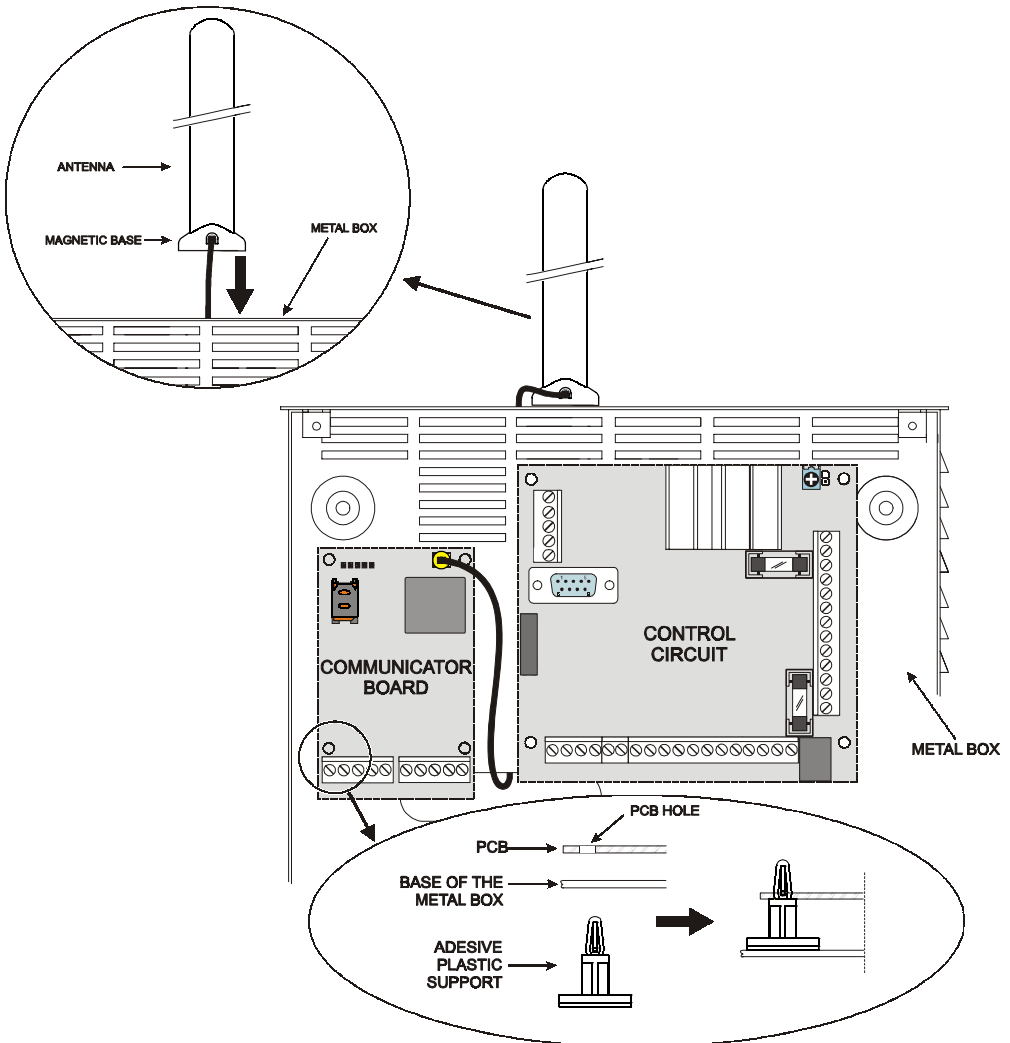

Fig. 2 - Fitting the Communicator board inside the control panel.
3. Position the 4 adhesive plastic supports [14] on the base of the metal casing, then fit the holes [7] on the Electronic board into the adhesive plastic supports, as illustrated in Figure 2.
- 4a. Position the antenna [1] on top of the metal casing (Fig. 2) so that the magnetic base [2] sticks to the surface. Feed the antenna cable through the cable feed opening in the metal casing.